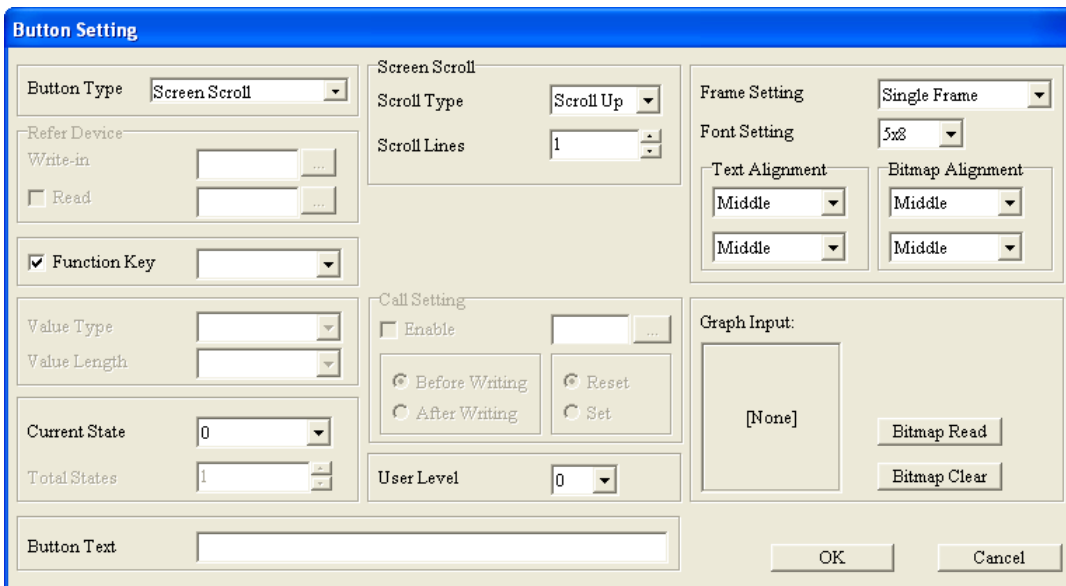

Figure 4-78 Button Setting window
- If **Screen Scroll** is selected, the **Button Setting** window will be as shown in Figure 4-78.